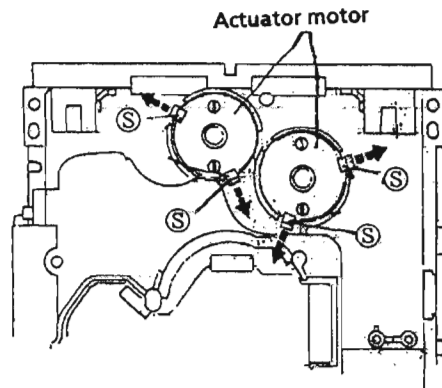

Fig. 2-20
5. Reverse the chassis ass'y and widen 4 pawls ④ which secure both actuator motors to its arrows to remove the actuator motors. (See Fig. 2-20.)